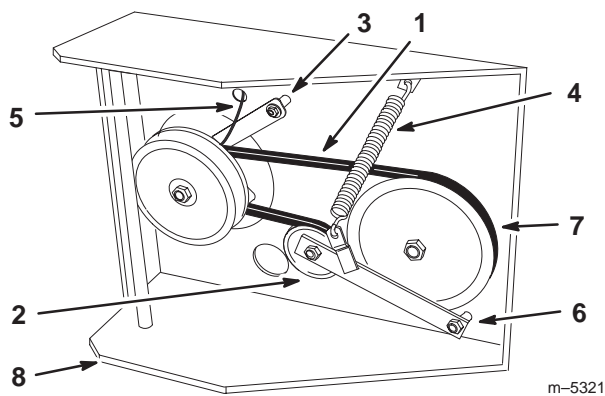

Figure 57
6. Disconnect clutch retainer from the engine deck (Fig. 57).
7. Unhook tension spring from side of frame (Fig. 57).
10. Torque pivot bolt to 35-40 ft-lb (47-54 N•m). Install tension spring between idler arm and frame bracket (Fig. 57).
11. Install clutch retainer to the engine deck (Fig. 57).